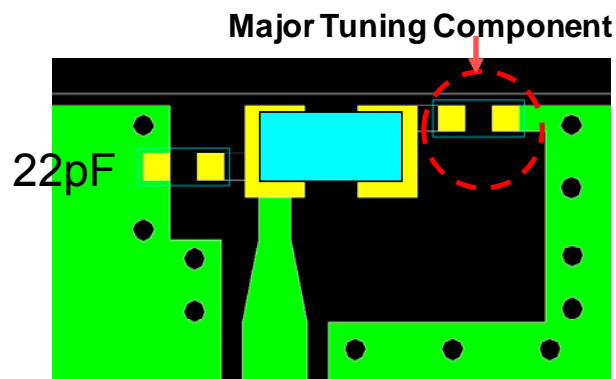

Figure 24
- The frequency can be tuned across a broad range by changing the Capacitor value, see Figure 24 to the right.